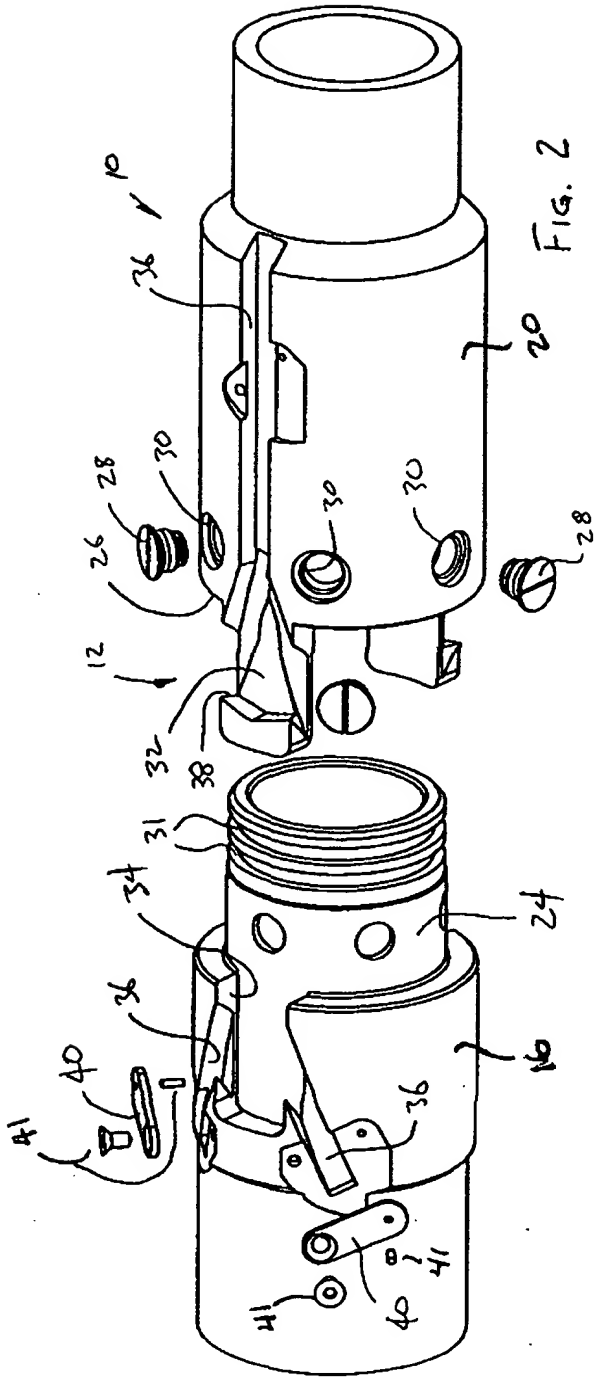
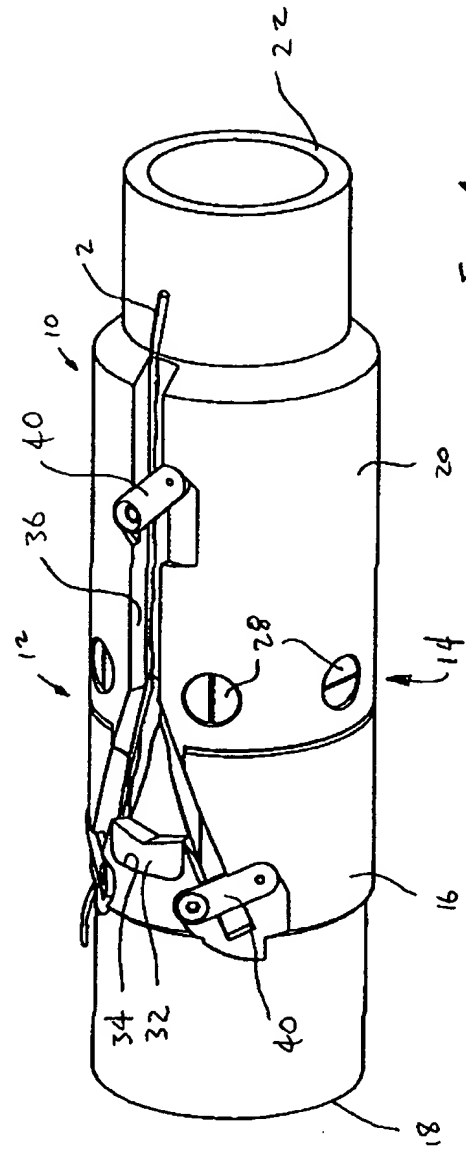
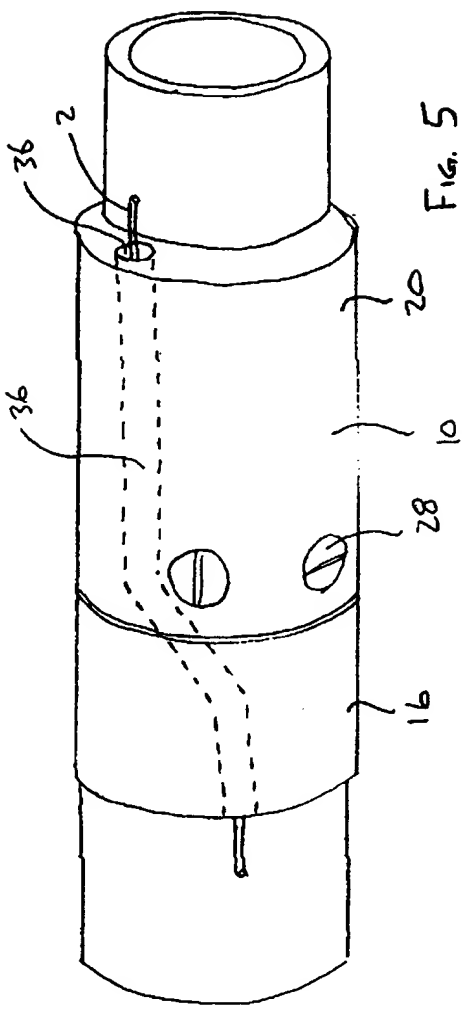
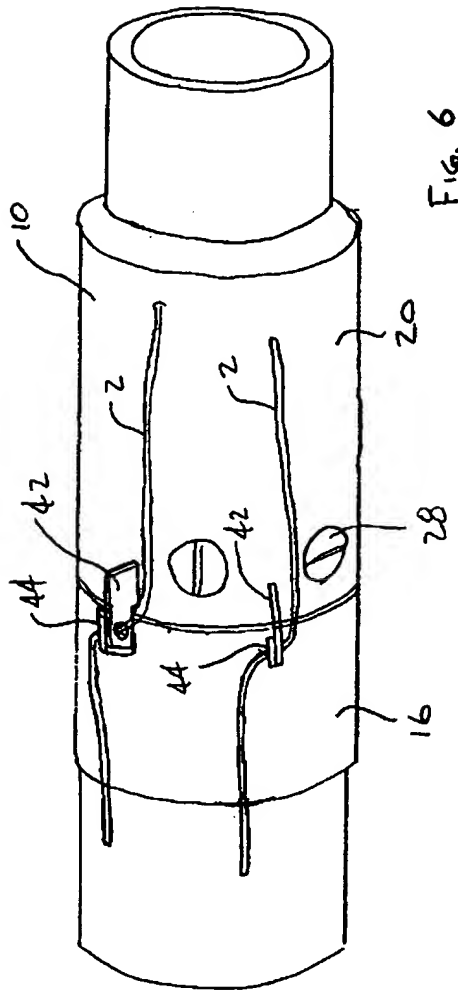

FIG. 2
FIG. 1
FIG. 5
FIG. 6
FIG. 1 is a perspective view of a first embodiment of a device 10, and FIG. 2 is a perspective view of a second embodiment of a device 10.
FIG. 5 is a perspective view of the device of FIG. 1, showing the device in a closed position. The device is a cylindrical assembly with a central longitudinal opening. The opening is defined by a series of overlapping segments, each of which is secured by a screw (28). The segments are held together by a series of overlapping bands (16). The device is shown in a closed position, with the opening being a narrow slit. The device is labeled with the number 10.
FIG. 6 is a perspective view of the device of FIG. 1, showing the device in a closed position. The device includes a main body 10, a handle 16, and a trigger 20. The trigger 20 is shown in a closed position, with the handle 16 and trigger 20 being in a retracted position. The device is shown in a perspective view, with the handle 16 and trigger 20 being in a retracted position.